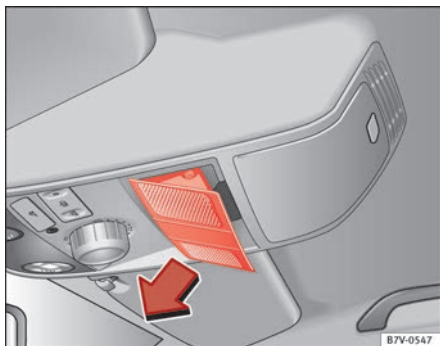

Fig. 193 On the interior roof lining: Remove cover.
- Push open the cover in the direction indicated (arrow) ⇒ fig. 193.